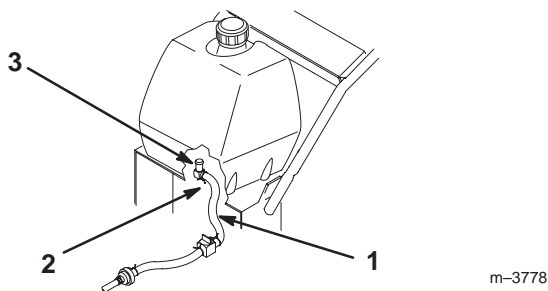

Figure 14
- Push the fuel line onto the fuel tank fitting, and secure the fuel line with a hose clamp (Fig. 14).